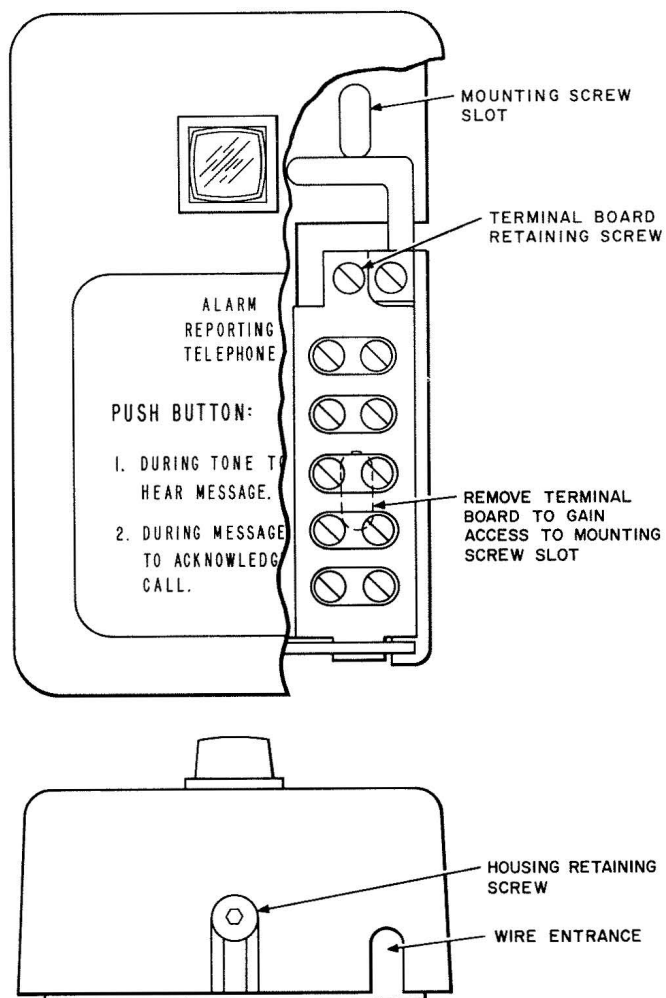

Fig. 2—Mounting Details
- (1) Loosen two housing retaining screws (Fig. 2), using appropriate wrench from C Key Kit, and remove housing.
- (2) Remove the one terminal board retaining screw (Fig. 2) and remove terminal board.